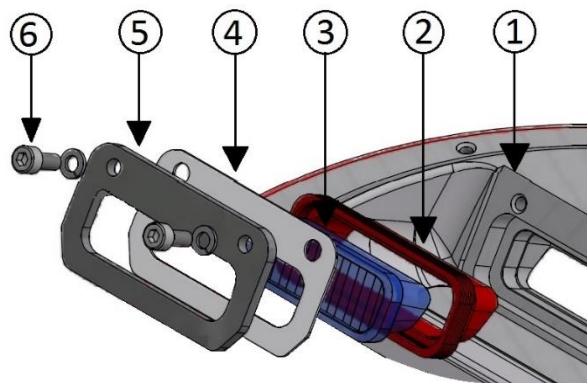

Figure 27 – Prism Gasket
- prism gasket mounted between prism and dome (Figure 27- n°2).